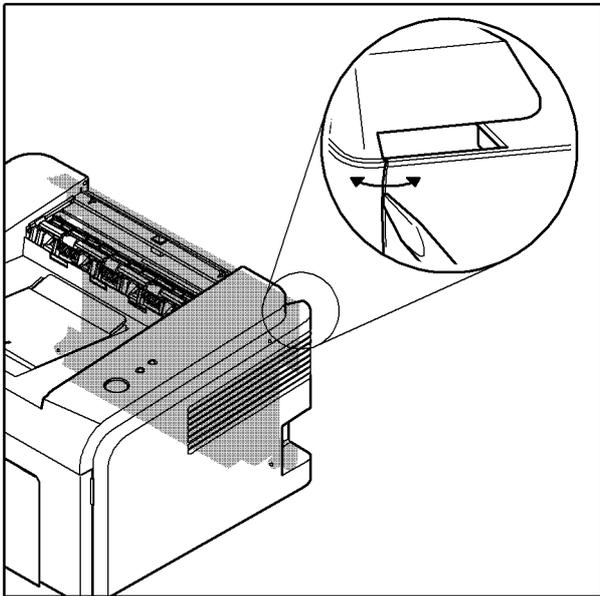

Figure 4
4. Use a flat bladed screwdriver to gently pry the rear cover open, Figure 4.